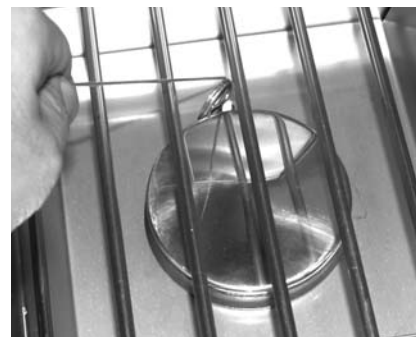

Fig. 7-2 - Manual lighting
2. Insert either a burning long-barrel butane lighter, a burning long-stem match, or a burning match held by a wire extension holder through the cooking grid opening to the burner (Fig. 7-2). Hold the flame against the edge of the burner.
4. If the burner does not light, **immediately depress the knob and turn the valve to OFF. WAIT FIVE (5) MINUTES** before repeating steps 2 through 4 of the **MANUAL LIGHTING** instructions.